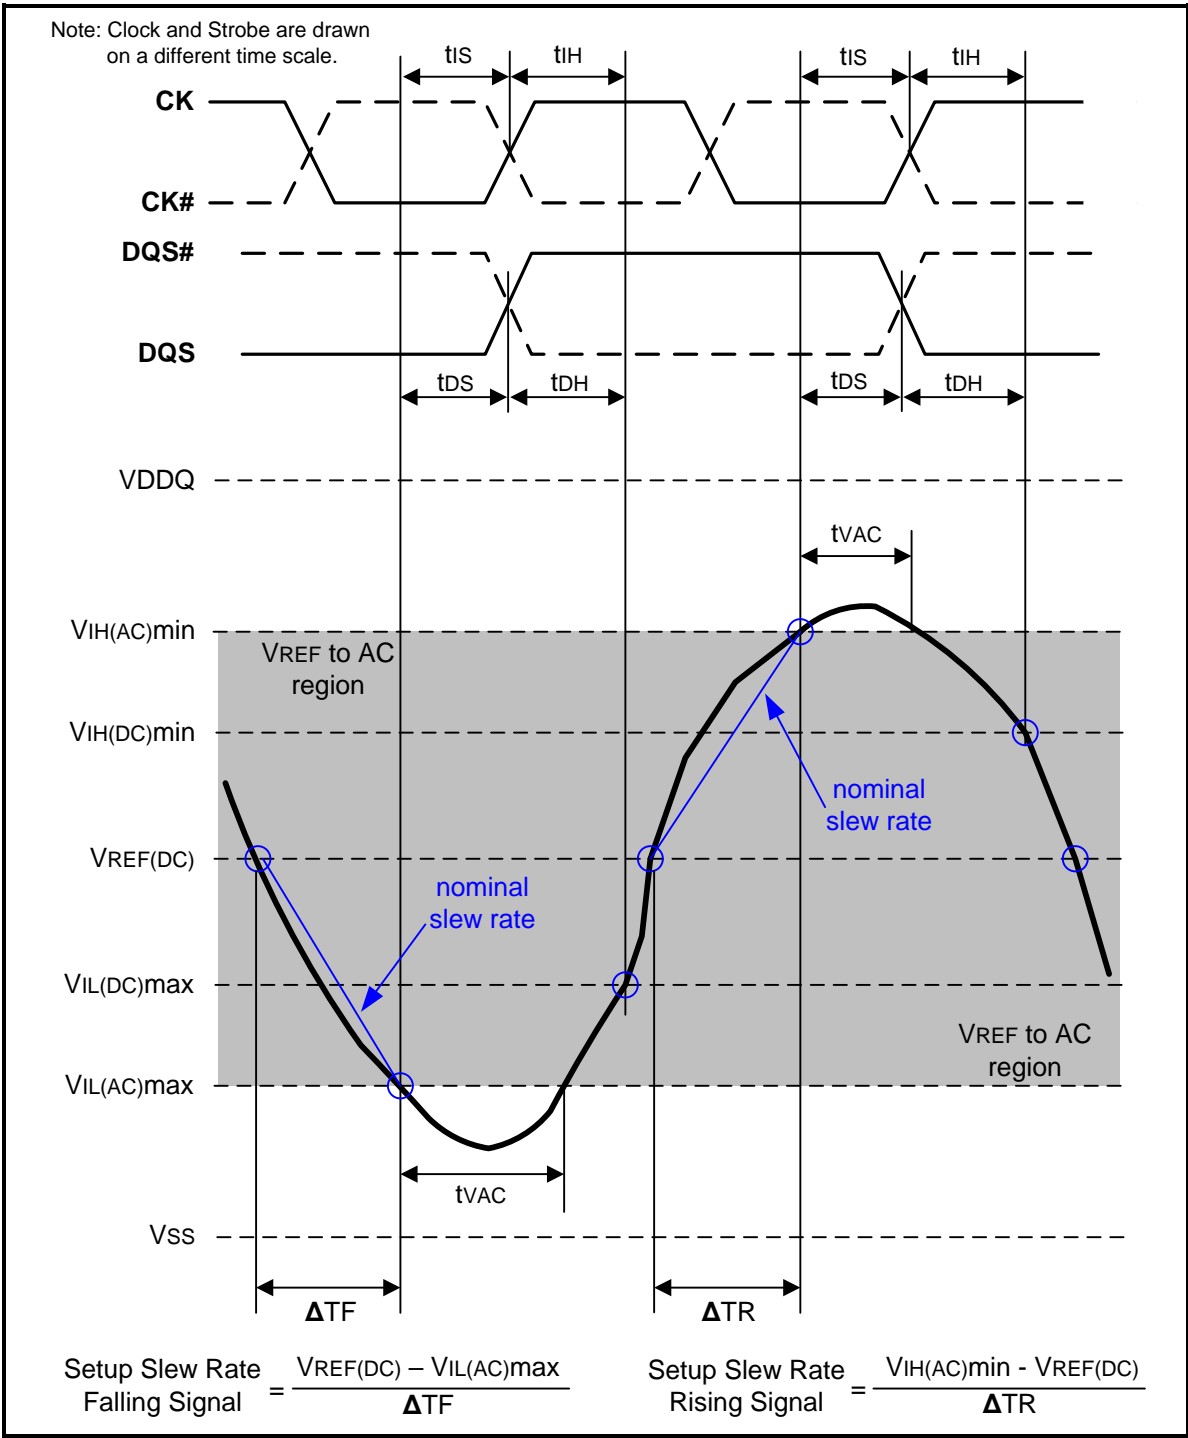
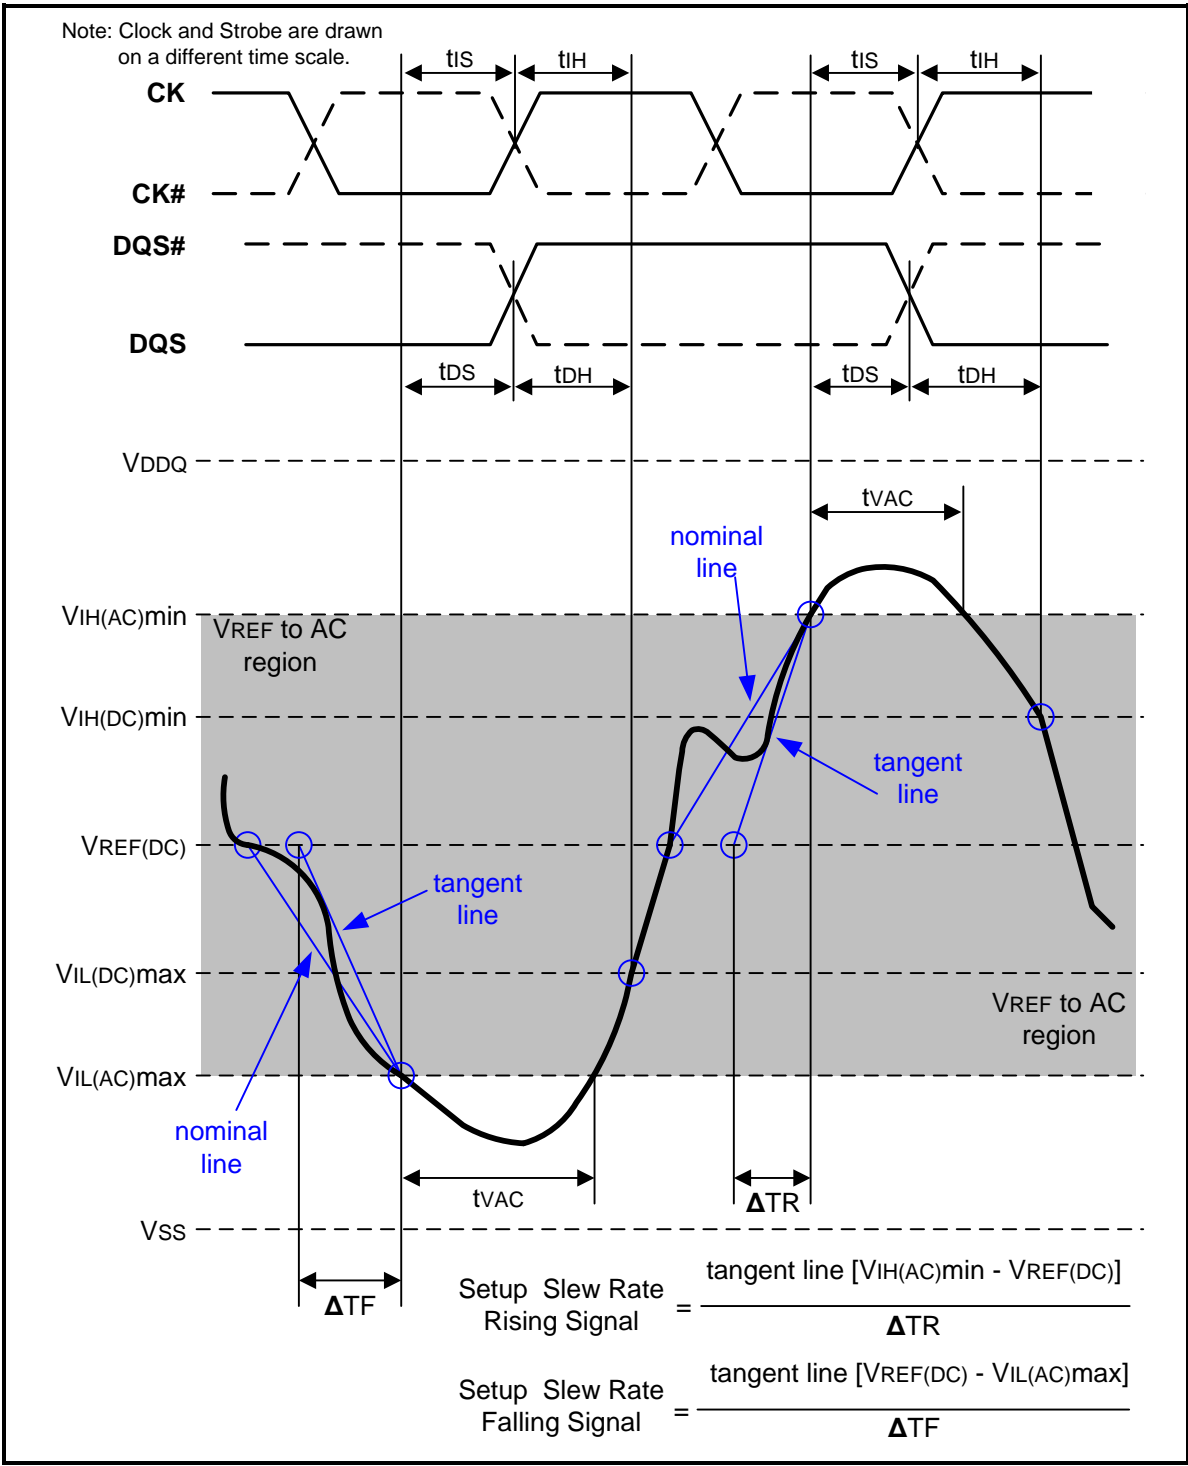

Figure 107 – Illustration of nominal slew rate and tvac for setup time tds (for DQ with respect to strobe) and tis (for ADD/CMD with respect to clock)
Figure 109 – Illustration of tangent line for setup time tds (for DQ with respect to strobe) and tis (for ADD/CMD with respect to clock)
Setup ( $t_{IS}$ ) nominal slew rate for a rising signal is defined as the slew rate between the last crossing of  $V_{REF(DC)}$  and the first crossing of  $V_{IH(AC)min}$ . Setup ( $t_{IS}$ ) nominal slew rate for a falling signal is defined as the slew rate between the last crossing of  $V_{REF(DC)}$  and the first crossing of  $V_{IL(AC)max}$ . If the actual signal is always earlier than the nominal slew rate line between shaded ' $V_{REF(DC)}$  to AC region', use nominal slew rate for derating value (see Figure 107). If the actual signal is later than the nominal slew rate line anywhere between shaded ' $V_{REF(DC)}$  to AC region', the slew rate of a tangent line to the actual signal from the AC level to  $V_{REF(DC)}$  level is used for derating value (see Figure 109).
Setup (tDS) nominal slew rate for a rising signal is defined as the slew rate between the last crossing of VREF(DC) and the first crossing of VIH(AC)min. Setup (tDS) nominal slew rate for a falling signal is defined as the slew rate between the last crossing of VREF(DC) and the first crossing of VIL(AC)max (see Figure 107). If the actual signal is always earlier than the nominal slew rate line between shaded 'VREF(DC) to AC region', use nominal slew rate for derating value. If the actual signal is later than the nominal slew rate line anywhere between shaded 'VREF(DC) to AC region', the slew rate of a tangent line to the actual signal from the AC level to VREF(DC) level is used for derating value (see Figure 109).